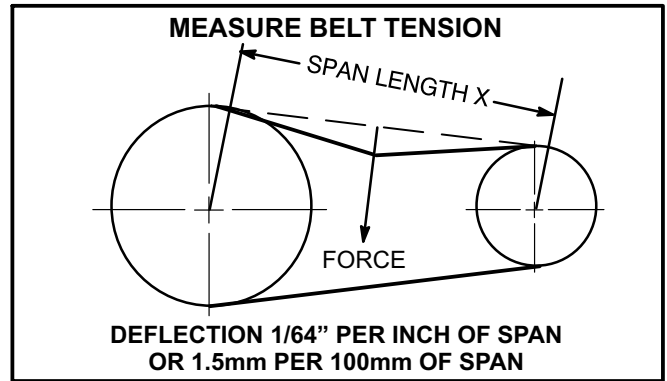

FIGURE 13
- 1- Measure span length X. See figure 13.
- 2- Apply perpendicular force to center of span (X) with enough pressure to deflect belt 1/64" for every inch of span length or 1.5mm per 100mm of span length.